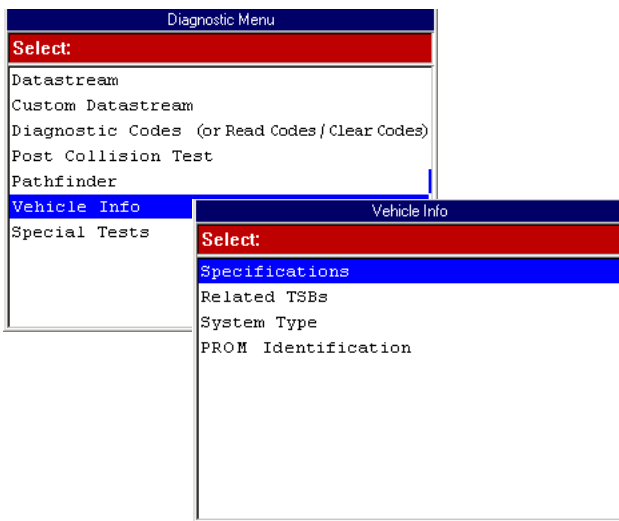

Figure 9.1: Diagnostic Menu Screen and Vehicle Info Screen
- 1 Follow the steps in Basic Procedure to display the Vehicle Info screen (see Figure 9.1).
- 1 Follow the steps in Basic Procedure on page 55 to display the Vehicle Info screen (see Figure 9.1).